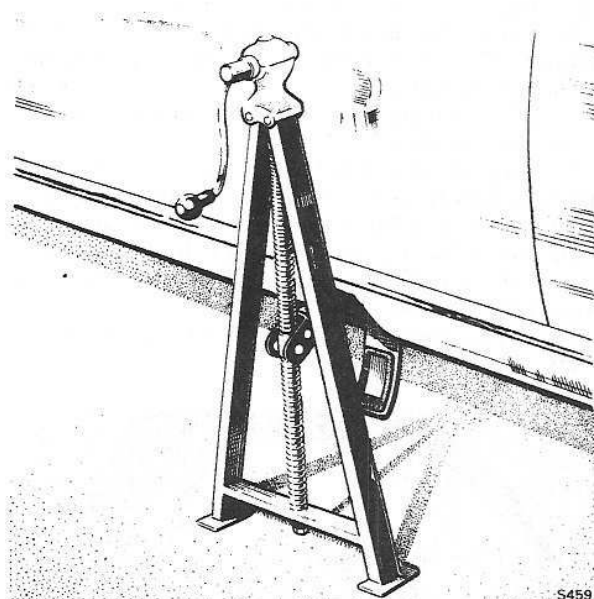

FIG. R5 JACK CORRECTLY POSITIONED
4. Open the cover plate on the sill, fit the jack in position as shown in Figure R5 and then raise the car.